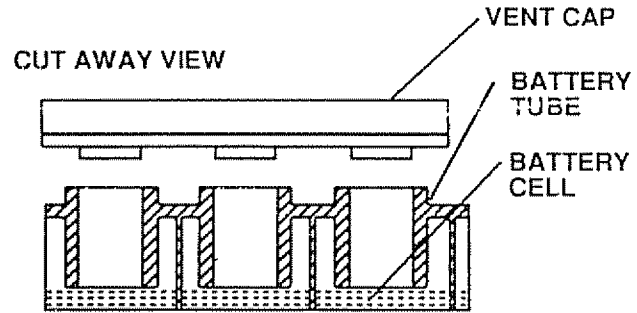

FIGURE 1
- Fill each cell with battery acid. Add the acid until it reaches the bottom of the vent wells (Fig 1). DO NOT OVERFILL. OVERFILLING WILL RESULT IN DAMAGE TO TRACTOR.
- Neutralize excess battery acid for disposal by adding it to approximately (2) two gallons (7.5 liters) of water in a (5) five gallon (19 liters) plastic container. Stir with a wooden or plastic paddle while adding baking soda until the addition of more soda causes no more foaming.